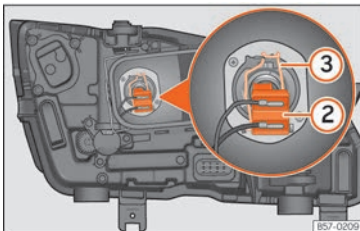

Fig. 54 In the engine compartment: dipped beam headlight bulb.
- Remove connector » **Fig. 54** ② from the bulb.
- Unclip the retainer spring » **Fig. 54** ③ pressing clockwise and inwards.